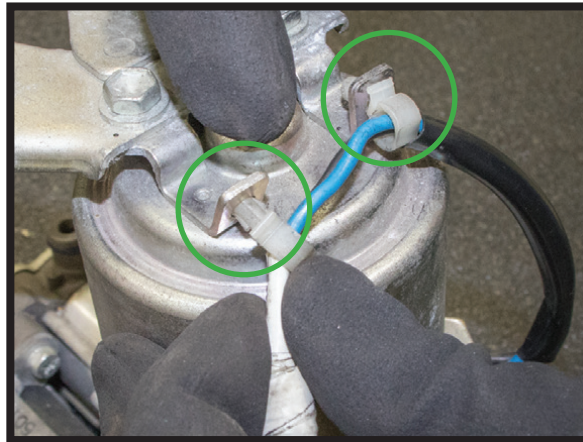

FIGURE 15
4. REMOVE THE WIRE CLIPS FROM THE COMPRESSOR AND SAVE FOR LATER USE. (FIGURE 15)